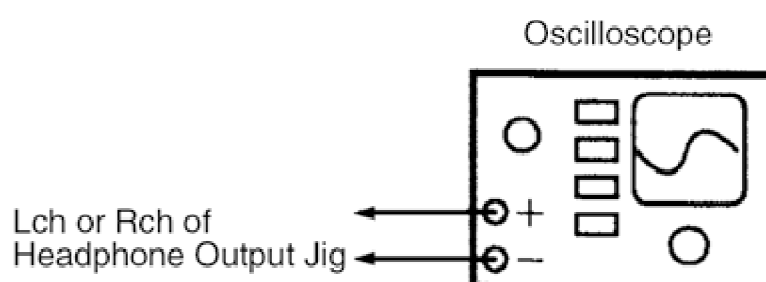

Fig. 10
1. Connect an oscilloscope. (Cf. Fig. 10)